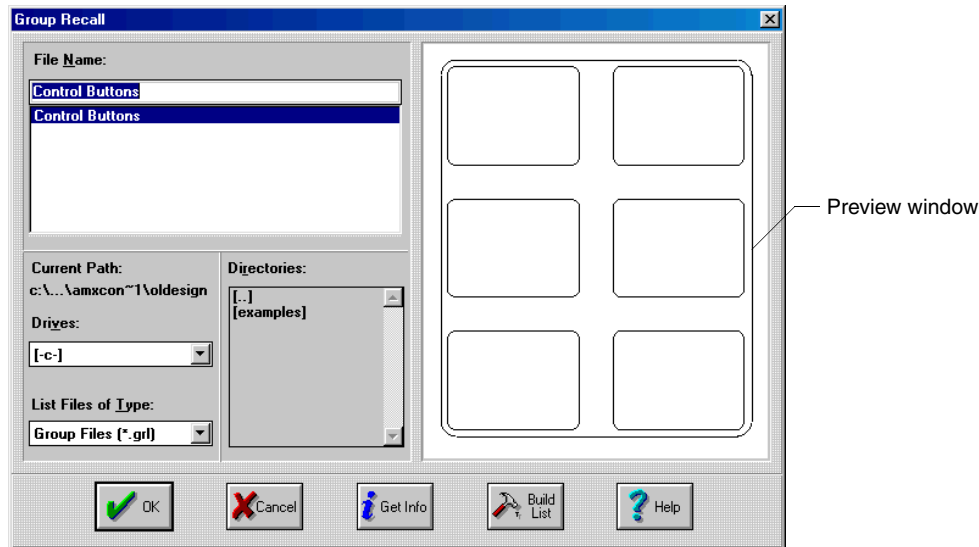

FIG. 15 Group Recall dialog
1. Open the target overlay. Then, click Group > Recall to open the Group Recall dialog (FIG. 15).